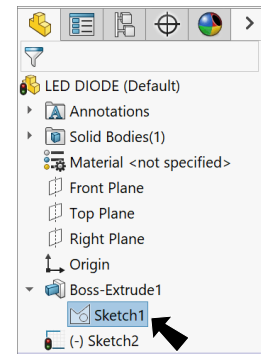

Fig. 9
Step 2. Expand **Boss-Extrude1** in the Feature Manager and click rail sketch, **Sketch1** to select sketch, **Fig. 9**.